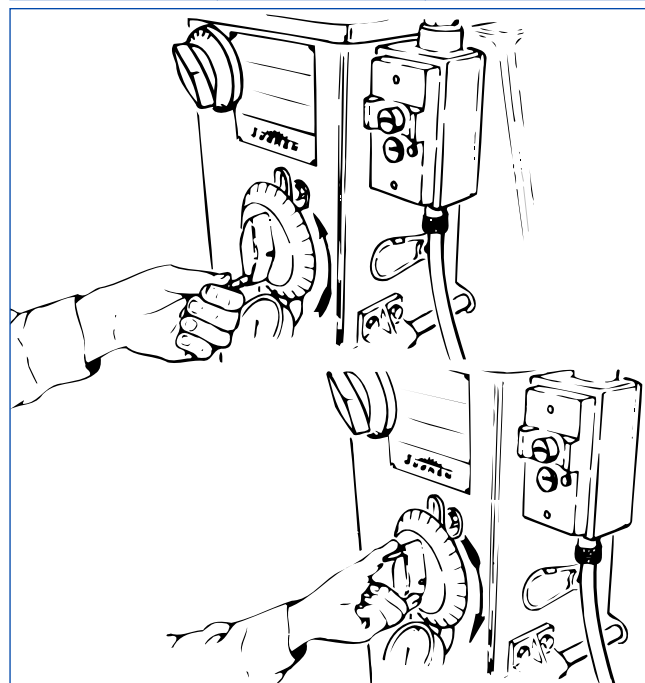

FIGURE 2-7, Cutting Pressure Settings
6. Turn Feed Dial counterclockwise until you meet resistance, then advance dial clockwise about five turns (see **Figure 2-7**).